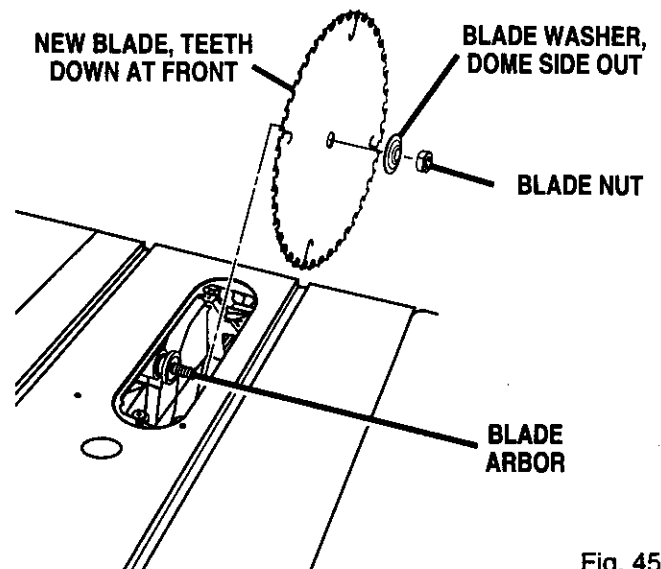

Fig. 45
- To install a standard blade, place the new blade on the arbor shaft, with teeth pointing down toward the front of the saw. See Figure 45.